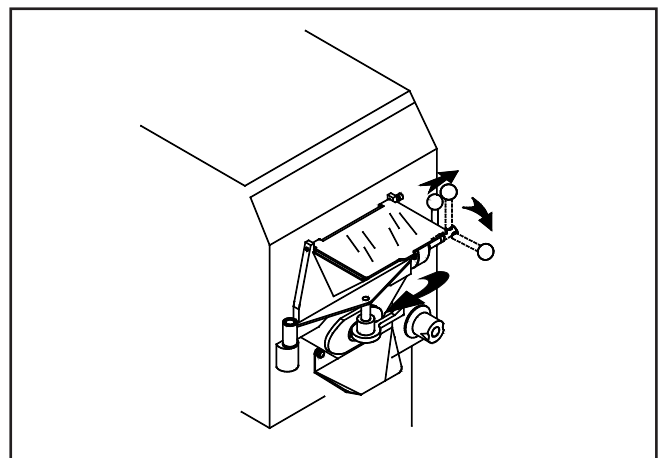

Figure 30
- Lift the door locking lever and shift it to the right (ref. Fig. 30).
- Open the door by rotating it on its hinge (ref. Fig. 30).